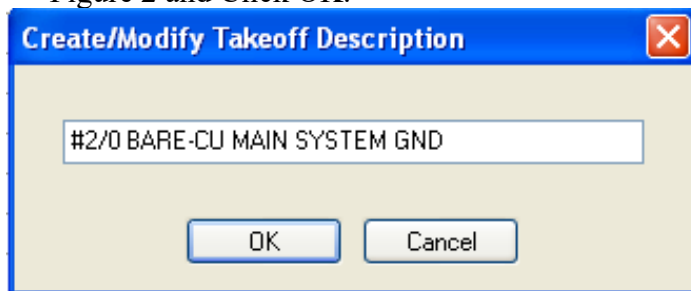

Figure 2
8. In the Create/Modify Takeoff Description window change the Takeoff Description as shown in Figure 2 and Click OK.